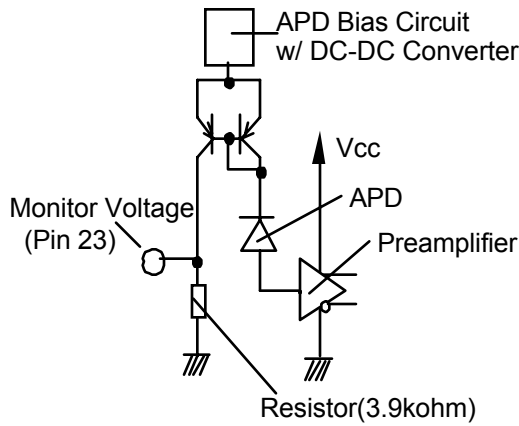

Figure 4 Input Power Monitoring Circuit
1. BER = 10⁻¹⁰ 2. Refer to Figure 4